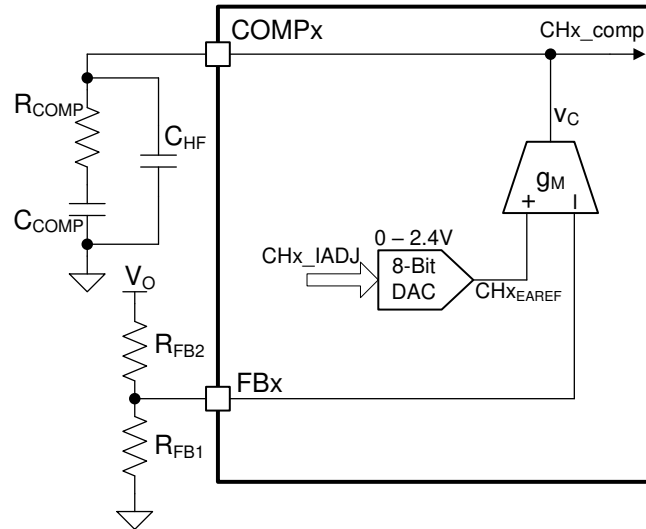

FIG 8-9. Proportional Integral Compensator
The feedback transfer function includes the voltage divider gain ($H_{FB} = R_{FB1} / (R_{FB1} + R_{FB2})$) and the transconductance amplifier gain. A compensation network at the output of the error amplifier is used to configure loop gain and phase characteristics. In CV BOOST application, a Proportional-Integral (PI) compensation is recommended. A network of R_{COMP} , C_{COMP} , and C_{HF} , shown in 图 8-9, can be used to implement PI compensation to create a pole at the origin, a low-frequency zero, and a high-frequency pole.